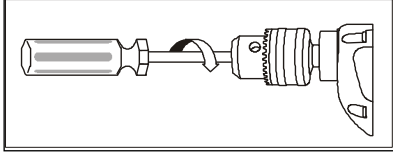

Fig.11
6. Remove the chuck screw using a  #2 screwdriver (Fig. 11).